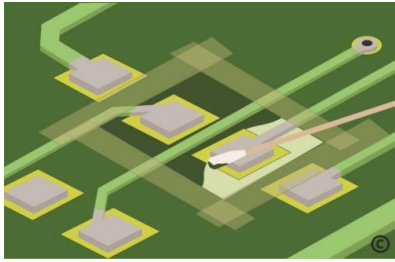

Fig. 3.10
2. If required, apply high temperature tape in order to outline the area where the replacement solder mask will be applied (**Fig. 3.10**)